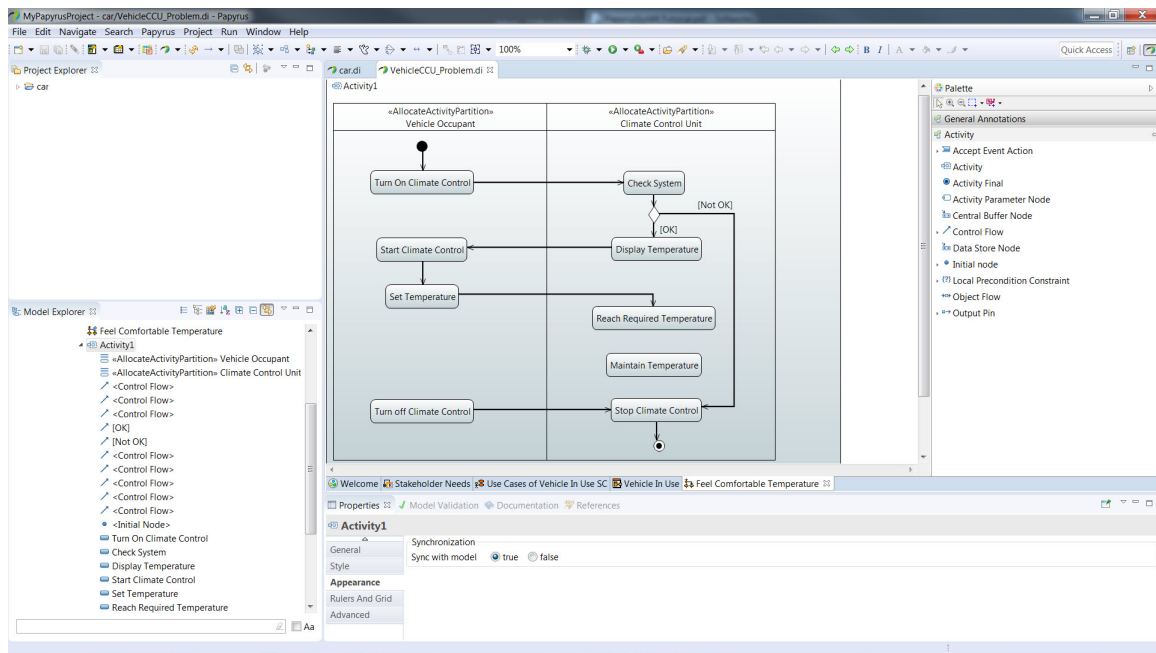

Figure 55: Creating More Control Flows
24. The next action after displaying the temperature is to start the climate control so create an unnamed control flow from the *Display Temperature* action to the *Start Climate Control* action. After the climate control is started the next action is to set the temperature so create an unnamed control flow between the *Start Climate Control* action and the *Set Temperature* action. Add an unnamed control flow between the *Set Temperature* action and the *Reach Required Temperature* action. Add an unnamed control flow between the *Turn off Climate Control* action and the *Stop Climate Control* action. Your activity diagram should look like (figure 55).